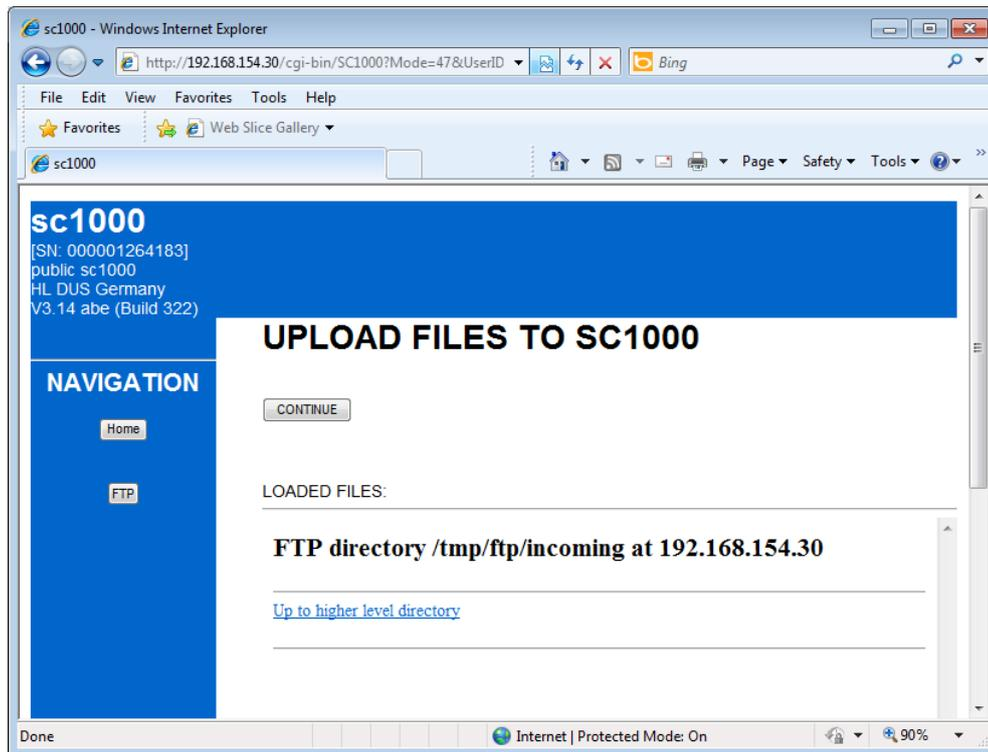

figure6: sc1000 “UPLOAD FILES” screen
- Here press the “Back” button (top left “←”) to get back to (figure6: sc1000 “UPLOAD FILES” screen).
- Press the “CONTINUE” button in the Internet Explorer window (figure6: sc1000 “UPLOAD FILES” screen).